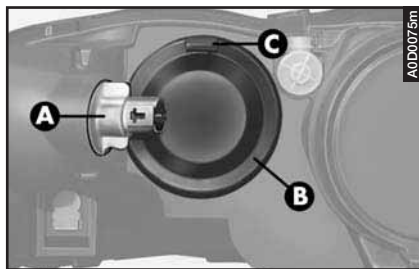

fig. 42
– Turn counter-clockwise and remove the direction indicator bulb holder (**A-fig. 42**) without disconnecting the connector to widen the working space.